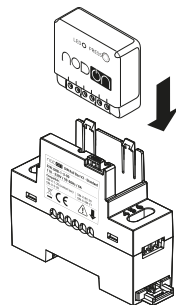

figure 1
- Insert the relay switch on the DIN Rail Box while respecting the direction of insertion of the relay switch, the terminal block must be located on the left (see figure 1). Make sure the terminals are well unscrewed and take care to not fold the pins located inside the DIN Rail Box.